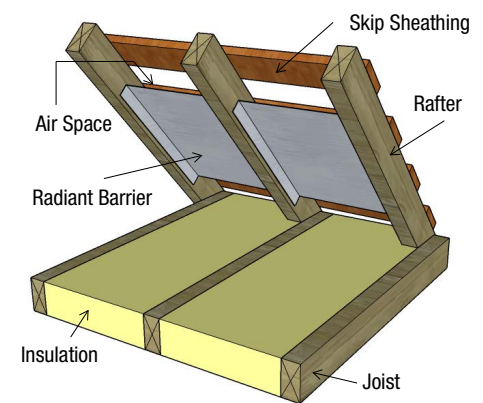

Figure 4 - The radiant barrier spans the rafters, and is attached to each side.
1. Span the radiant barrier between the rafters, and secure to each side (Figure 4).